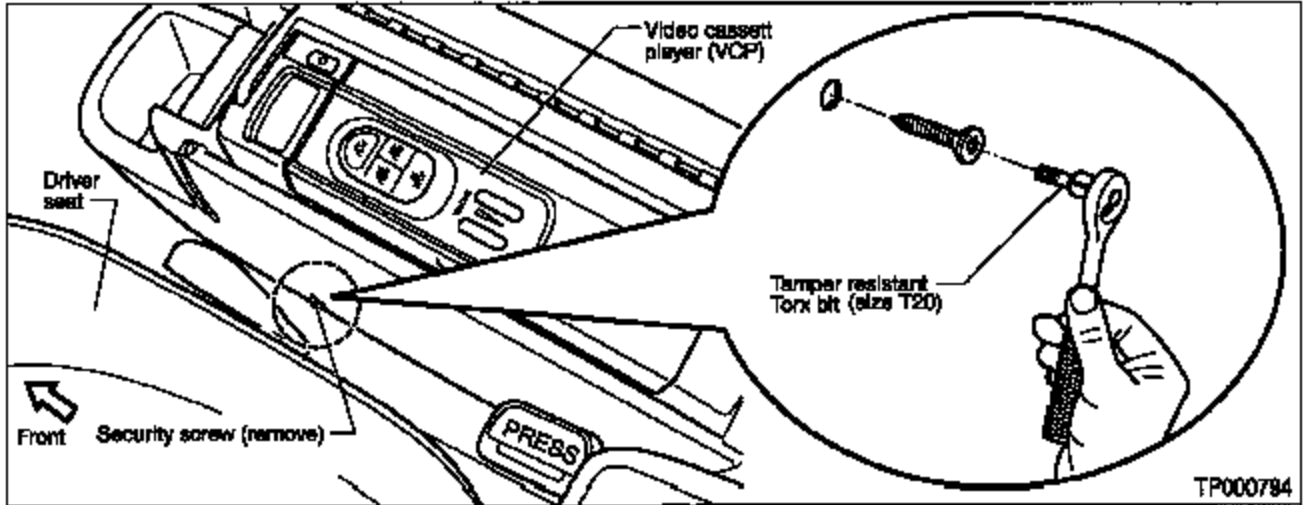

Figure 12
- A. Locate and remove the security screw, located on the driver's side of the center console near the floor, using a tamper resistant T20 size Torx™ bit (Snap-On P/N TTXR20E or equivalent). See Figure 12.